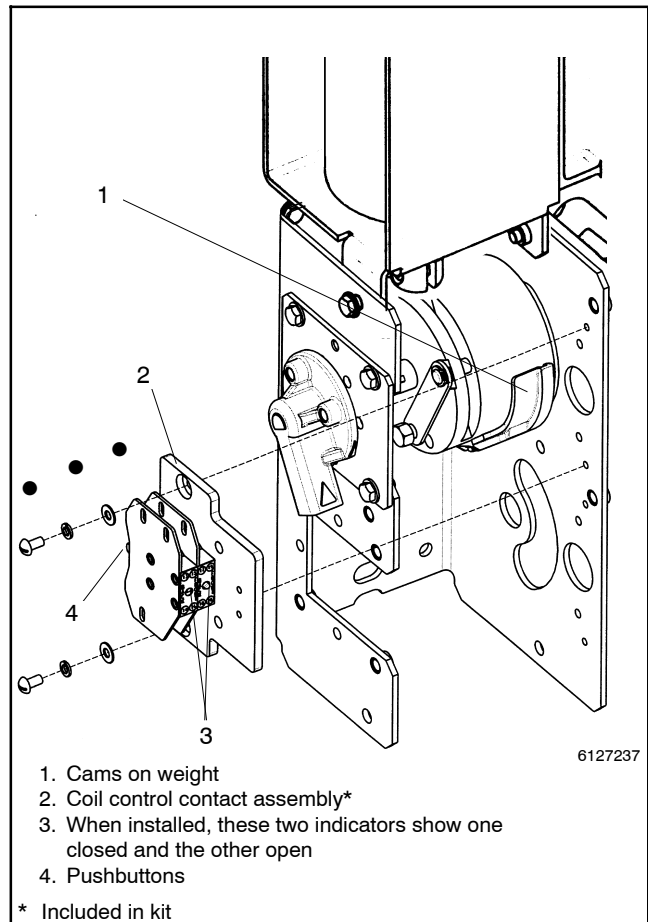

Figure 8-27 Coil Control Contact Assembly
3. Remove the control contact assembly. Use a short handle blade screwdriver to remove two screws with lock and flat washers. Then remove the control contact assembly. See Figure 8-27.
4. Install the new control contact assembly. Position the new control contact assembly with its pushbuttons against the cams on the weight. Use a short handle blade screwdriver to install two screws with lock and flat washers. See Figure 8-27.
6. Manually operate the transfer switch. Use the maintenance handle (see Section 8.1) to operate the transfer switch several times. You should see the two indicators change alternately from open to closed. If not, recheck the installation. See Figure 8-27.